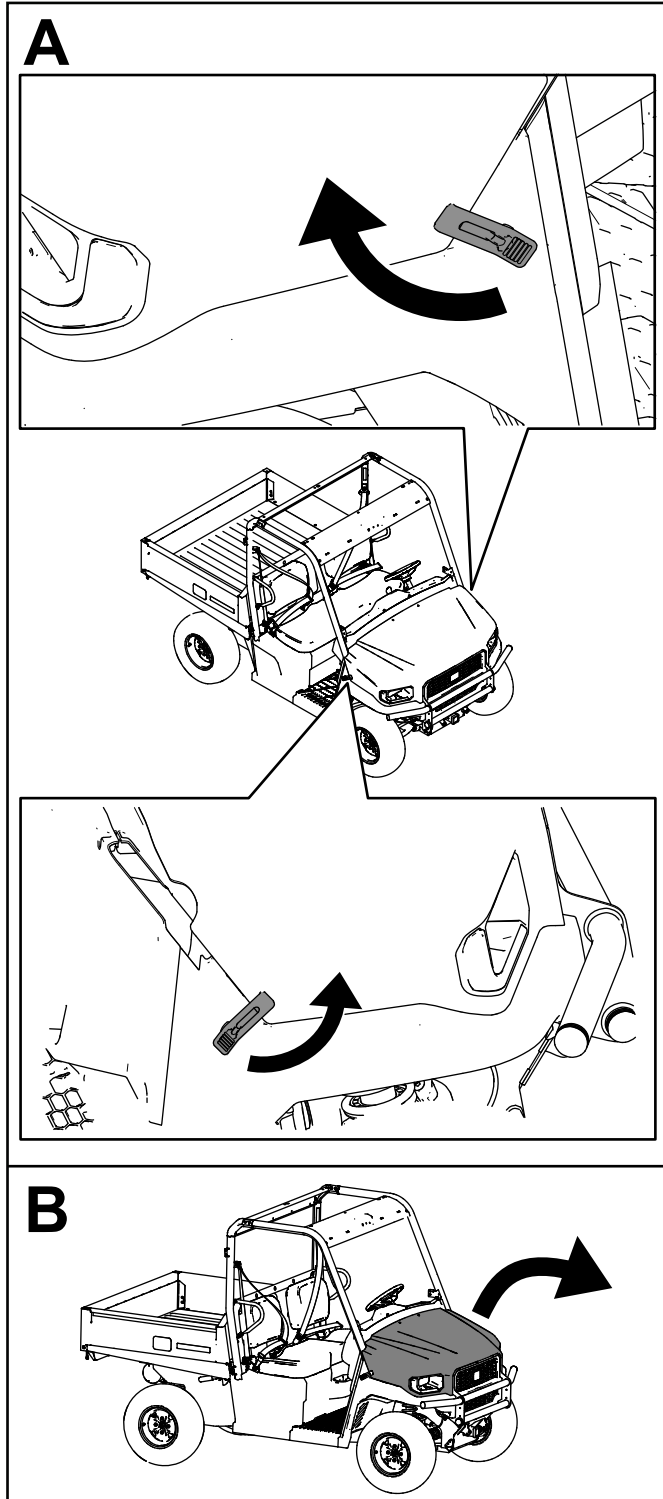

Figure 91
2. Secure the hood by aligning the rubber latches onto the latch anchors on each side of the hood (Figure 91).